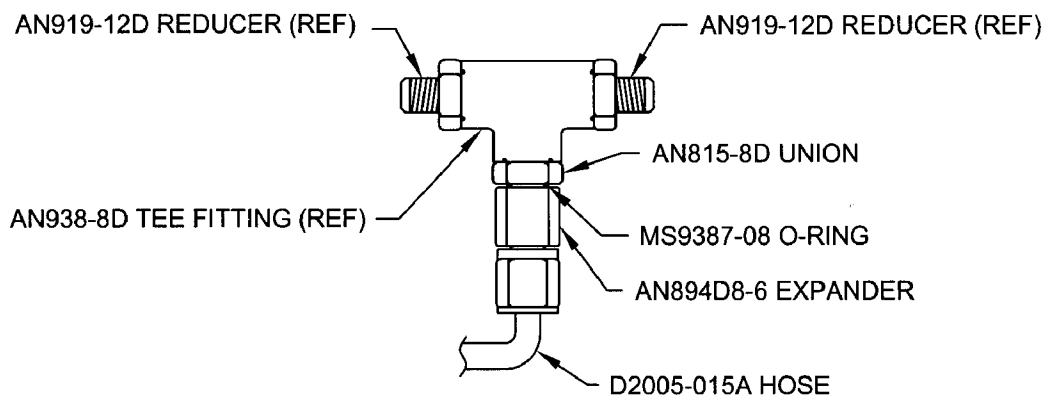

FIGURE 2. D206-570-049 VALVE ASSEMBLY
5. The AN815-8D union, MS9387-08 O-ring and AN894D8-6 expander can be installed between the existing AN938-8D tee fitting on the RH side of the D206-570-049 valve assembly and the new D2005-015A hose as shown in Figure 2.